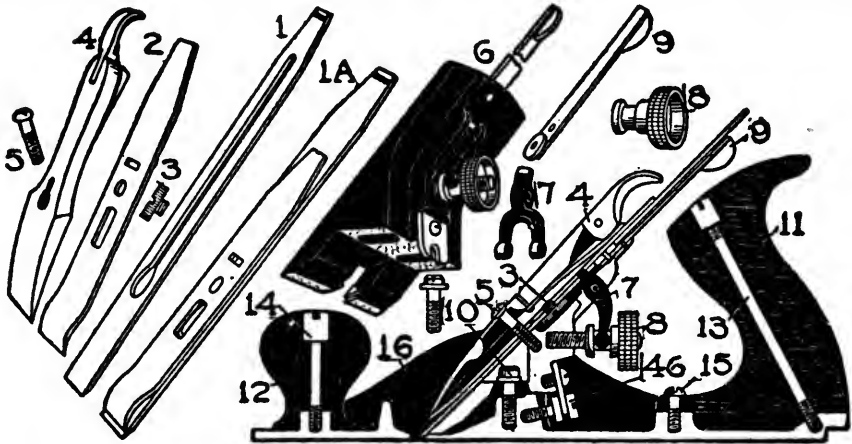

Fig. 18.
Fig. 18 shows the type of plane that is commonly used to smooth and true the broad surfaces, edges, and ends of boards.
1. The thickness of shaving taken is regulated by turning the adjusting nut (No. 8, Fig. 18). The direction to turn this nut can only be learned by trial for planes differ in this respect.